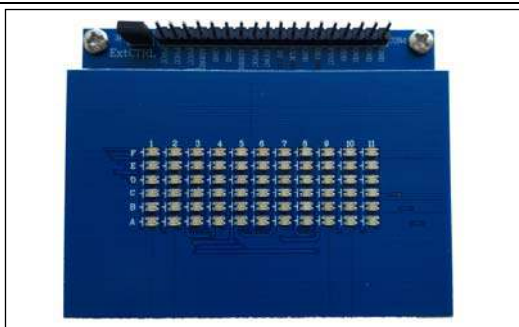

Figure 1: Photo of IS31FL3743A Evaluation Board
**Note 3:** The value of these resistors on the evaluation board is 20Ω. For PVCC=5V and red LED application, prefer 51Ω for these resistors as shown in datasheet Figure 1.